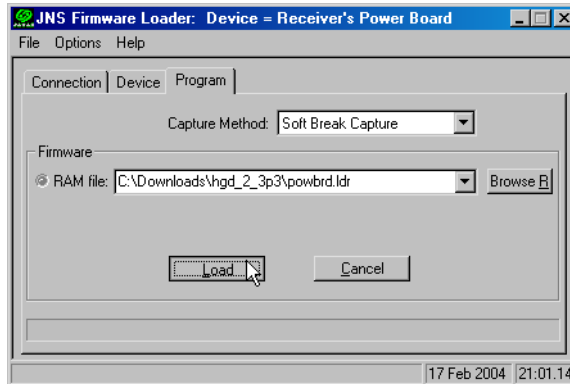

Figure 4-18. Program Tab Settings
8. Select the **Program** tab and set the **Capture Method** to **Soft Break Capture** (recommended) (Figure 4-18).
9. Browse for and select the Power board's RAM file (Figure 4-18).